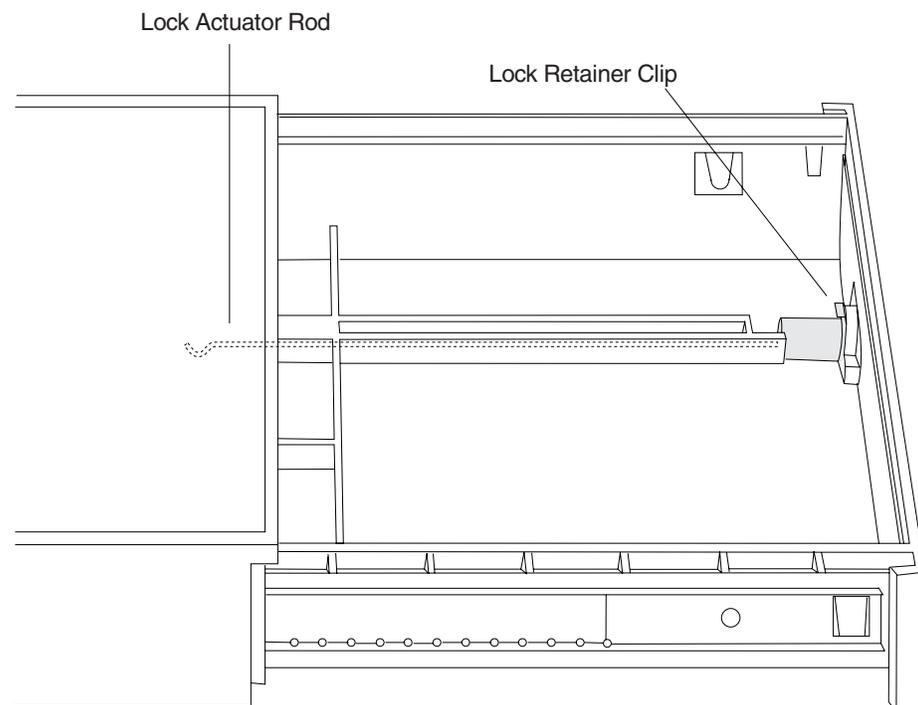

Figure 19. Lock assembly
- Remove the lock retainer clip holding the lock assembly on the inside of the drawer (see Figure 19).
- Make sure the lock actuator rod is in the position shown in Figure 19.